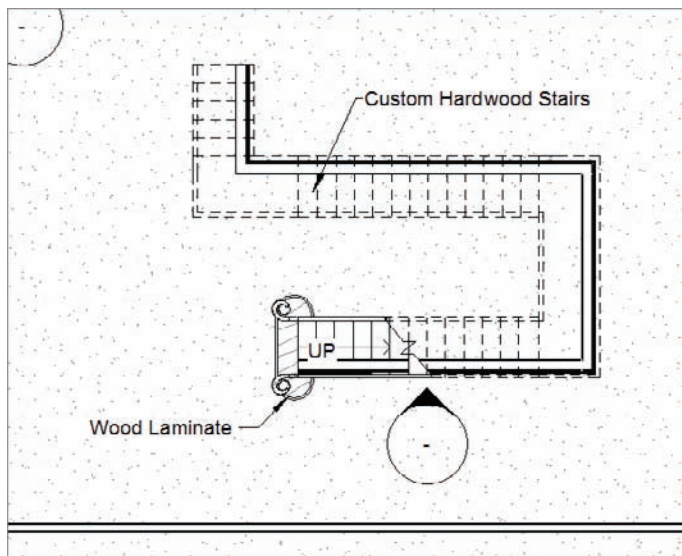

FIGURE 16.12 Placing an interior elevation
2. Place an interior elevation, as shown in Figure 16.12.